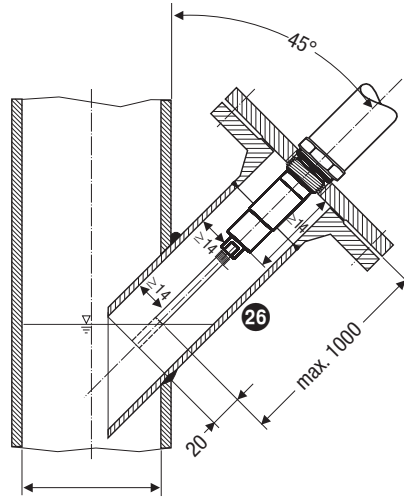

Fig. 17 Inclined installation, e. g. in ascending inlet lines of hot-water installations or vessels. Standpipe/connecting flange DN 50
- The angle of inclination of the electrode must not exceed 45°, with the length of the electrode being limited to 1000 mm. **Fig. 17**
- For outdoor installations please use level electrode NRG 1...-51 F. Level electrodes with this suffix (F) feature a terminal box made from aluminium.